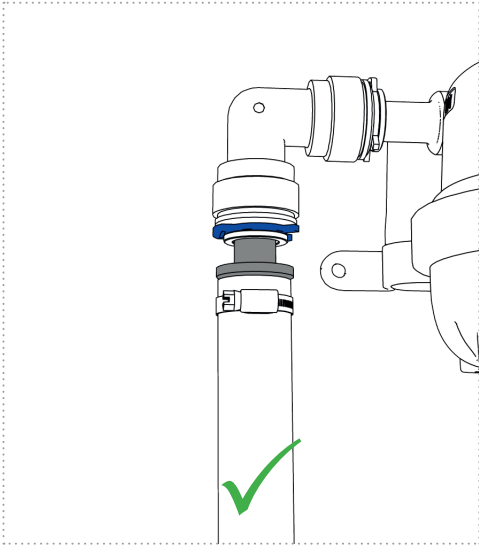

Figure 14a
6. Check all connections for correct seating and tension-free connection to the UV unit (Figures 14a and 14b)